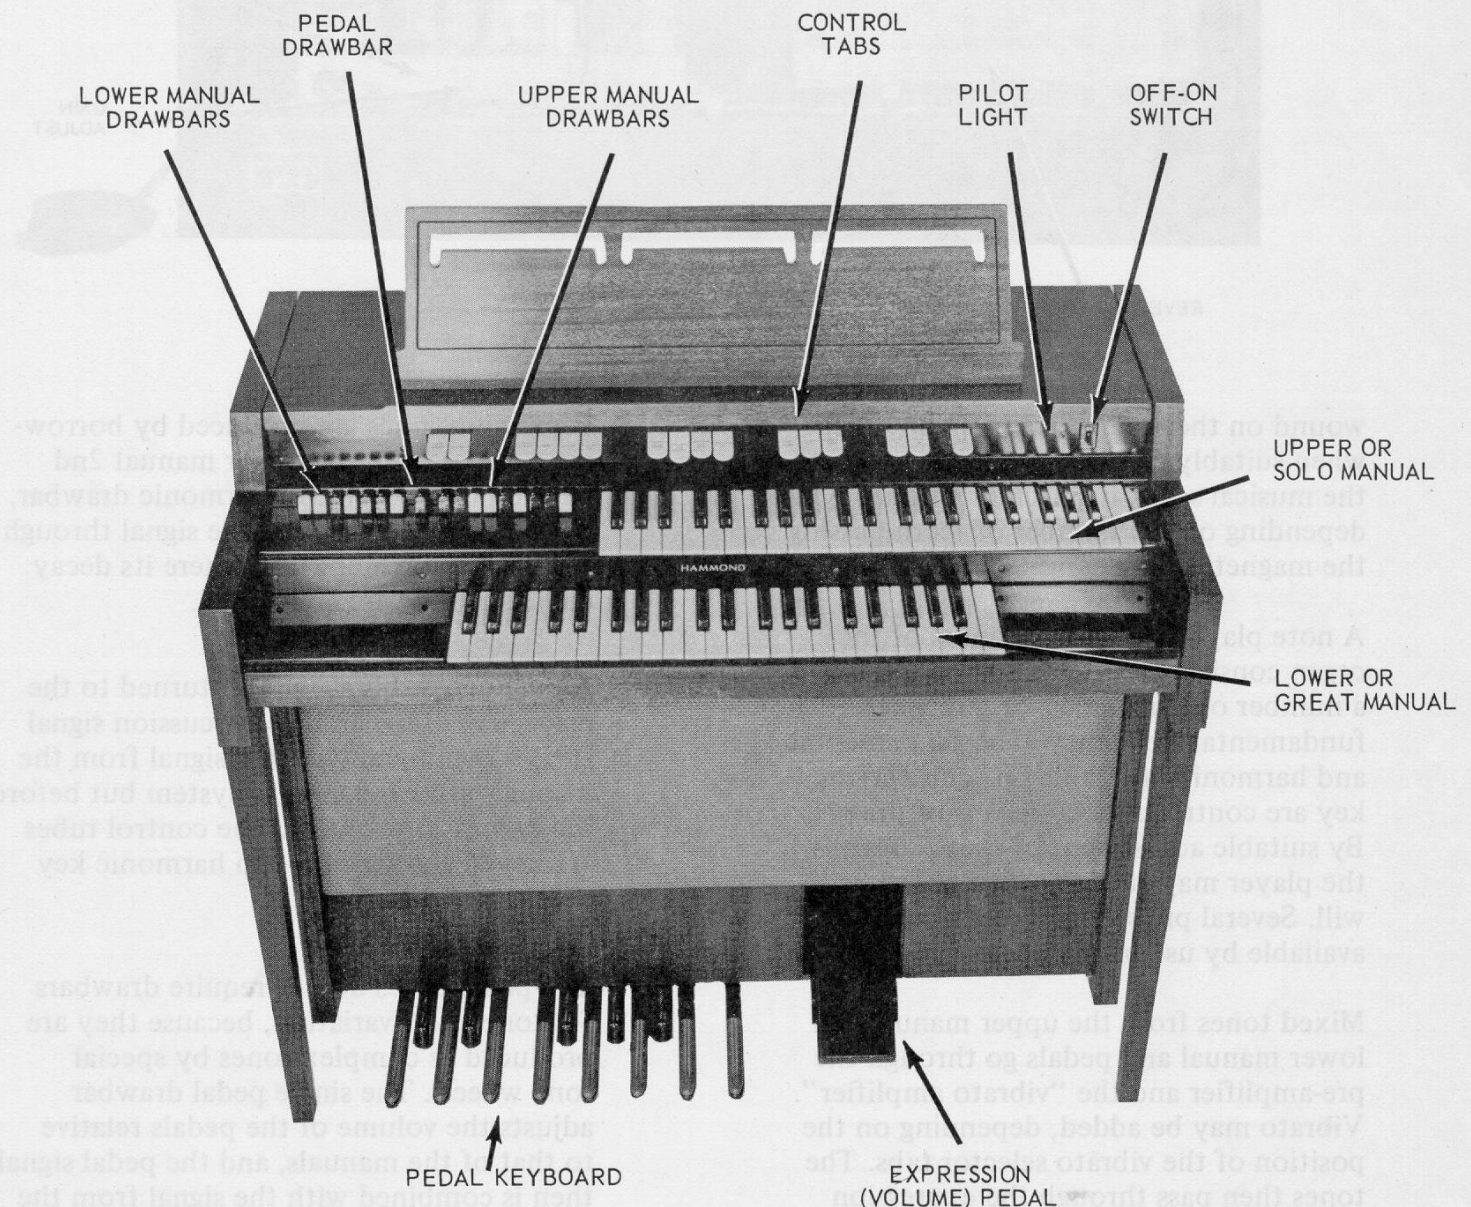

Figure 1-1. L-100 Console, Front View
- 1-1. GENERAL** — This section contains a description of the operating principles of L-100 Series organs. Figures 1-1 and 1-2 depict the locations of the various subassemblies. Figure 1-3 is a block diagram.
A toggle switch (Figure 1-1) controls power to the organ.
**1-9. EXPRESSION PEDAL.** — The expression pedal, sometimes called “swell” pedal (Figure 1-1) is operated by the player’s right foot and varies the volume of both manuals and pedals together. When the pedal is tilted back (closed) by pushing on the player’s heel the music is softest, and when pushed forward (opened) by the player’s toe the music is loudest.